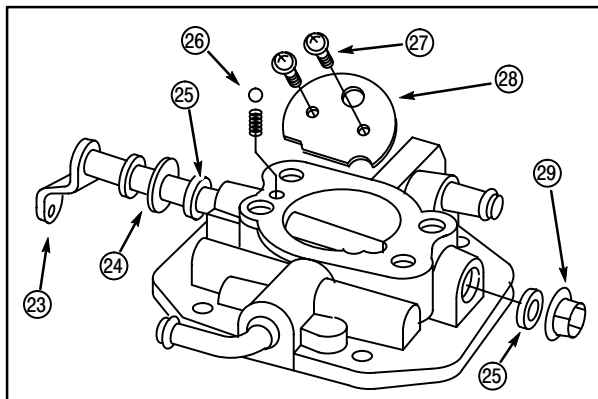

Fig. 103
14. Mark choke plate before removal to ensure re-installation in the original position. Top and bottom edges are beveled. Remove screws (27) and choke plate (28), **Fig. 103**.
15. Remove retainer (29).
16. Remove choke shaft (23) and spacer (24).
17. Remove seals (25).